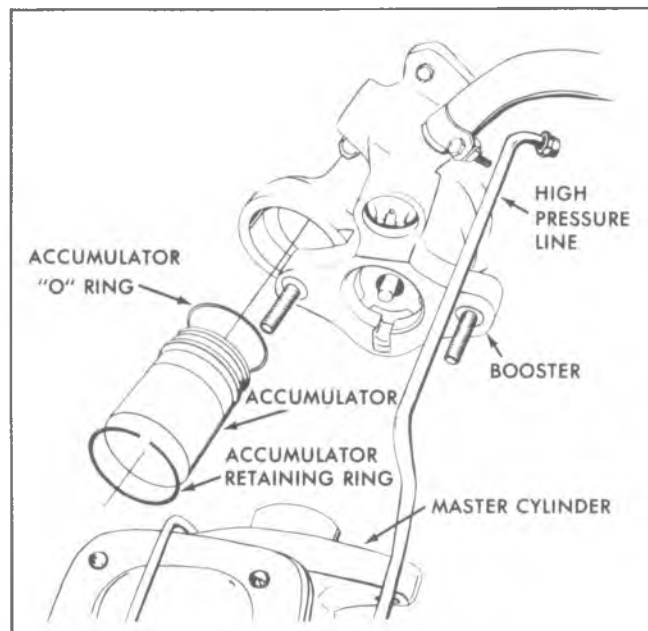

Fig. 5-52--Accumulator Installation
1. Using clean power steering fluid, lubricate accumulator seal. Install seal and accumulator in housing and then place the retaining ring over the accumulator (fig. 5-52). Place Tool J-26889 over accumulator.